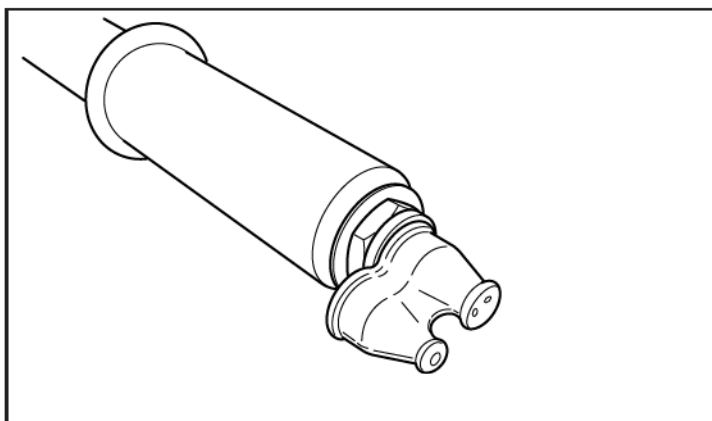

Figure 8. Pump Nozzle Installation
1. Determine which spray pattern is desired. The nozzle has a single-hole option for a stream pattern or a two-hole option for a fan pattern. See Figure 8.